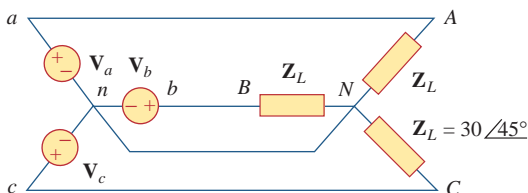

Figure 12.56
- 12.30** In Fig. 12.56, the rms value of the line voltage is 208 V. Find the average power delivered to the load.